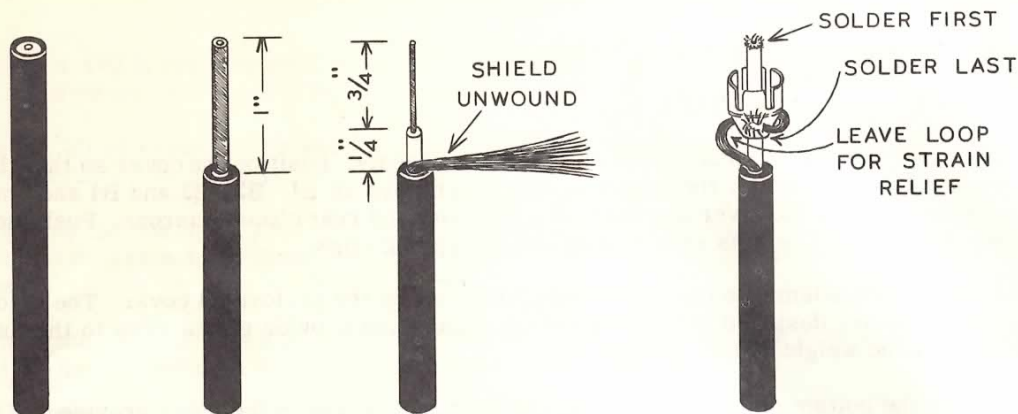

Figure 15
- (✓) Prepare two 4' lengths of shielded audio cable as shown in Figure 15. Use a phono pin plug on the end of each cable. These cables will be used to connect the HIGH-OUT and LOW-OUT to the two power amplifier inputs.